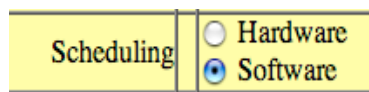

Figure 2: Scheduling option – if viewable, indicates this is a P9 board.
- If a Scheduling option is present, as shown in Figure 2, then the hardware series is P9.